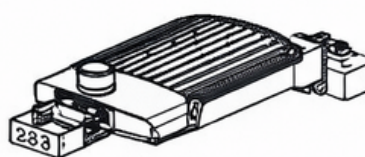

Figure 7
3. DIRECT MOUNTING (DM)
Step 1: Remove the bracket mounting screws on the fixture, open the side lid of bracket and run the wires through the bracket (Figure 7)